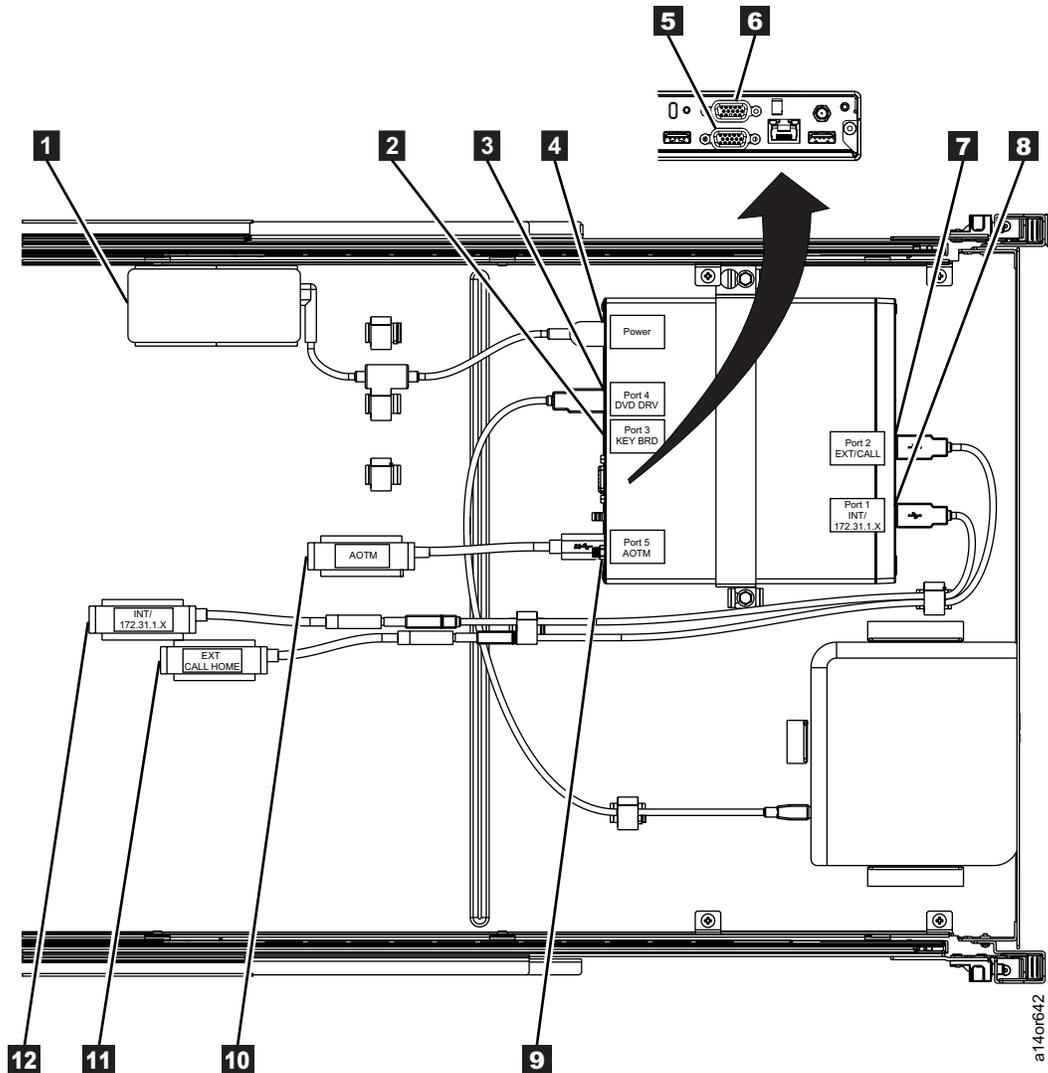

Figure 14. Cabling for the TSSC server, FC 2725
- For TSSC FC 2725, refer to Figure 14.